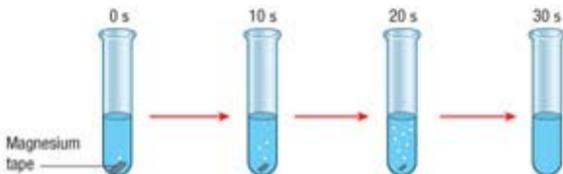

Figure 4.4 Quantity of magnesium tape, a reactant, decreases with time
0.3 g of magnesium tape reacts completely with excess dilute hydrochloric acid in 30 s (Figure 4.4). Calculate the rate of reaction of this reaction.